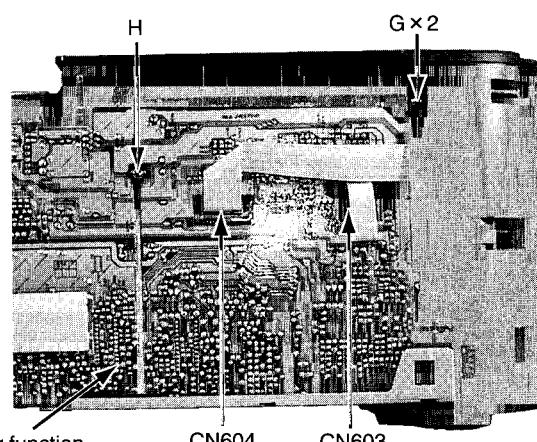

Fig. 6
7. Disconnect the card wire from CN603,CN604 on the CD servo control P.C.Board (See Fig 6).